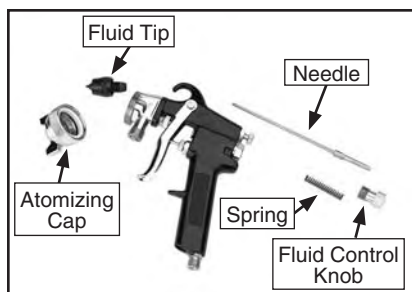

Figure 21. Disassembly for cleaning.
8. Unscrew the atomizing cap with your fingers and the fluid tip with the service wrench. The fully disassembled gun should look like **Figure 21**.